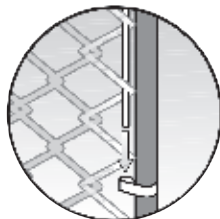

Figure 2
Working on the **OUTSIDE** of the kennel, stand the chain link next to the **CORNER STAND WITH ROD CLIPS (D)**, insert a **ROUND TENSION ROD (H)** through the edge of the chain link, hook the tension rod onto the clips. (figure 2)